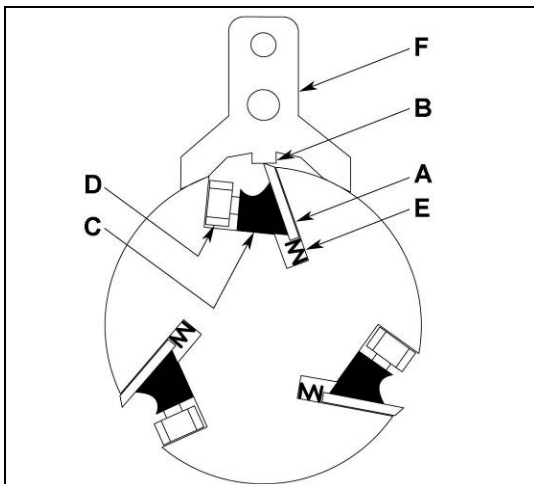
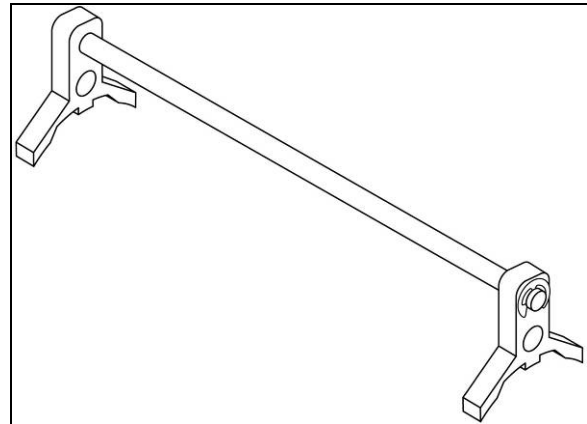
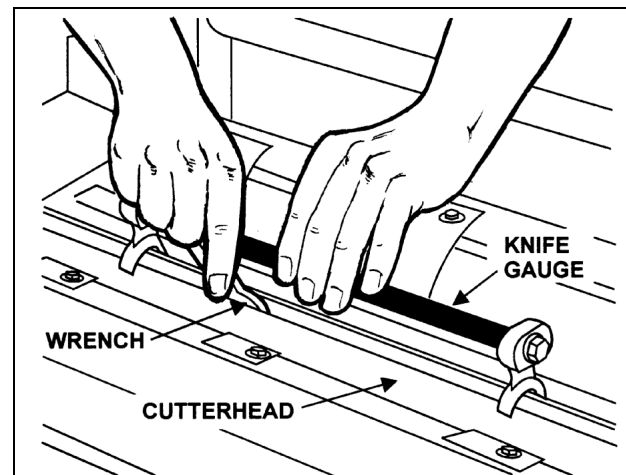

Figure 21
Figure 22
Figure 23
3. To check and adjust the knives, use the provided *knife gauge* (Fig. 22) and check all three knives. Press the knife gauge against the cutterhead as shown in Figure 23.
Referring to Figure 21:
7. After all three knives are set with screws just snug, back out and tighten the six gib screws (D, Fig. 21 & Fig. 23) of the first knife against the slot starting with the end screws, then the center screws, until the knife is securely held in the cutterhead. Tighten remaining two knives in the same manner.
Refer to Figure 21:
- Loosen the *gib* (C) by turning the six *gib screws* (D) into the gib. Remove gib (C), knife (A) and springs (E).
- Place knife gauge (Fig. 23) over knife.
Still referring to Figure 21: